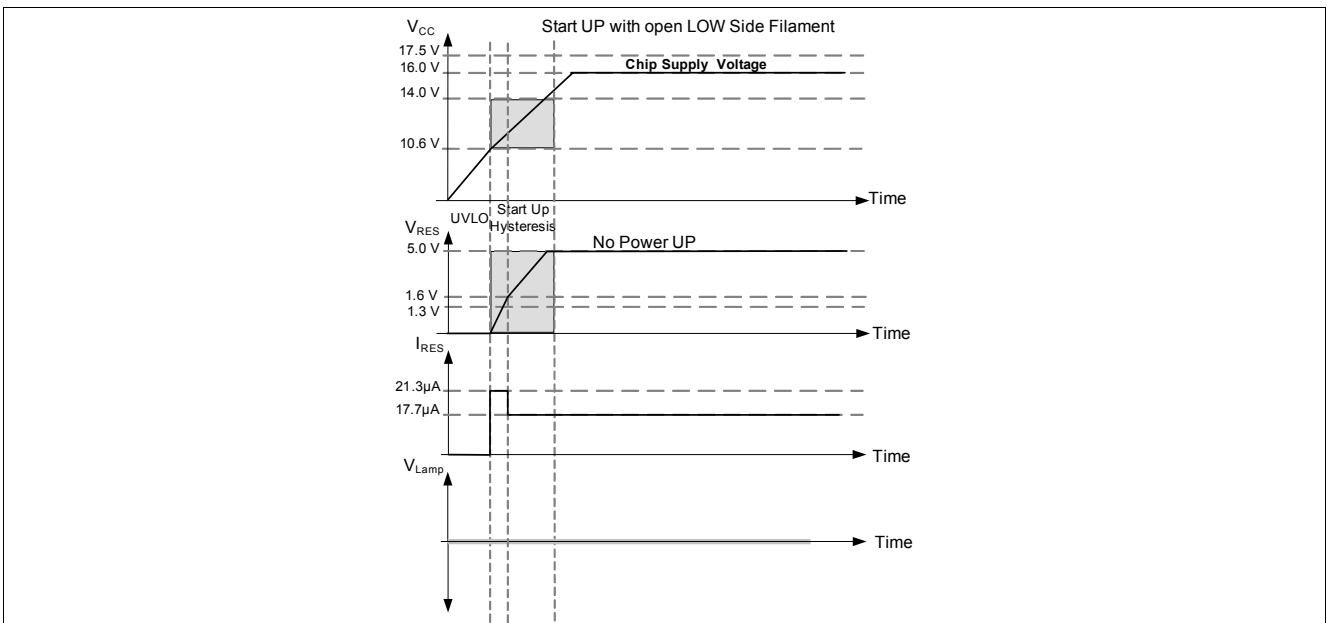

Figure 8 Start-Up with Open Low Side Filament
**Figure 8** shows the lamp voltage versus the frequency during the different phases from preheating to the run mode. The lamp voltage rises by the end of the preheating phase with decreasing frequency (e.g., 100 kHz to 50 kHz) up to, for example, 700 V during ignition. After ignition, the lamp voltage drops down to its working level with continuous decreasing of the frequency (**Figure 8**) down to its working level e.g. 45 kHz (set by a resistor at the RFRUN pin to ground). After decreasing of the frequency stops, the IC enters the pre-run mode.